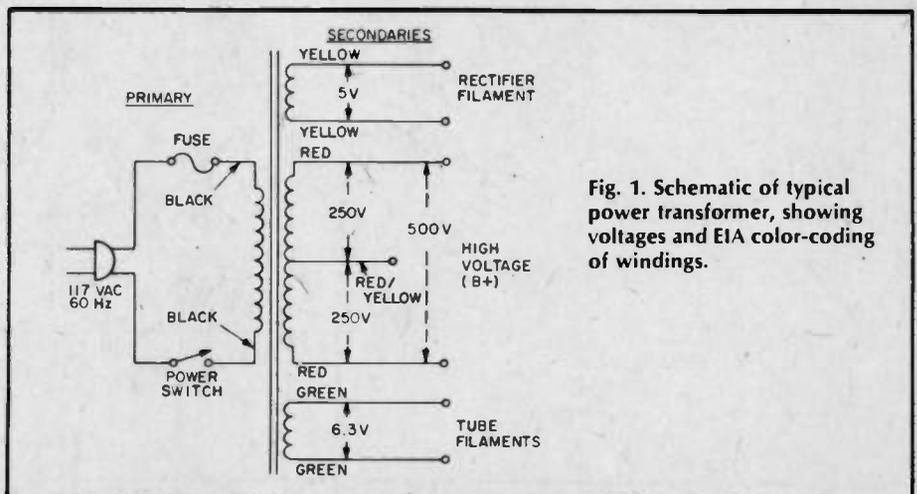

Fig. 1. Schematic of typical power transformer, showing voltages and EIA color-coding of windings.
**The Transformer.** In Fig. 1 is a typical power transformer that's been produced by the millions with only slight variations. As we'll see, the transformer acts to create a voltage change between its primary and various secondary windings. The trick's based on the turns-ratio between the various windings. If turns in the secondary number twice those of the primary, then output voltage doubles; if turns in the secondary are a fraction of those in the primary, then a stepdown in voltage occurs.
Thus, in Fig. 1, the rectifier filament, which operates at 5 volts, has few turns compared to the primary; the high-voltage winding at 500 volts, however, has about five times as many turns as the primary. The colors shown for the windings, incidentally, are standard and observed by many transformer manufacturers.